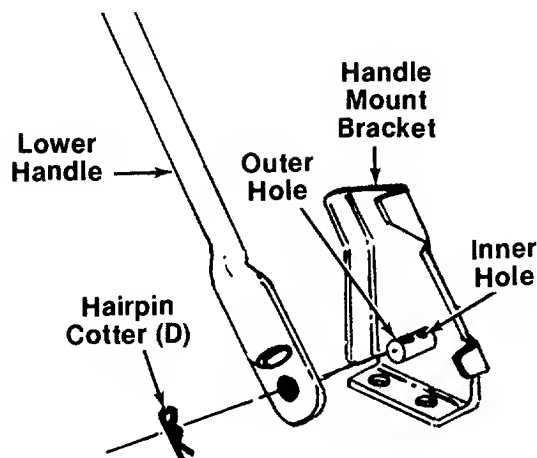

FIGURE 4.
- B. Place lower handle in position over weld pins in handle mount brackets on deck, using the bottom hole in the lower handle. Make certain the instruction label on the lower handle can be read from the operating position. Secure with hairpin cotters (D) in inner hole on weld pin. See figure 4.